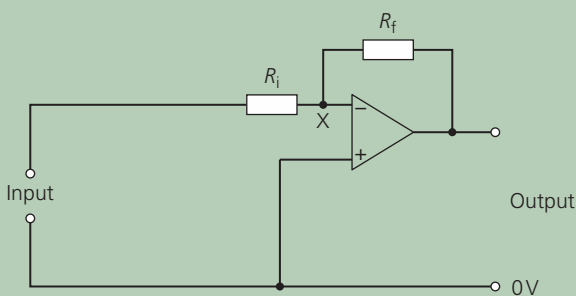

Figure Q1
1. a. Figure Q1 shows an operational amplifier in the inverting configuration.
- ii. Point X is a *virtual earth*. Explain what is meant by this term in the context of the circuit in Figure Q1.